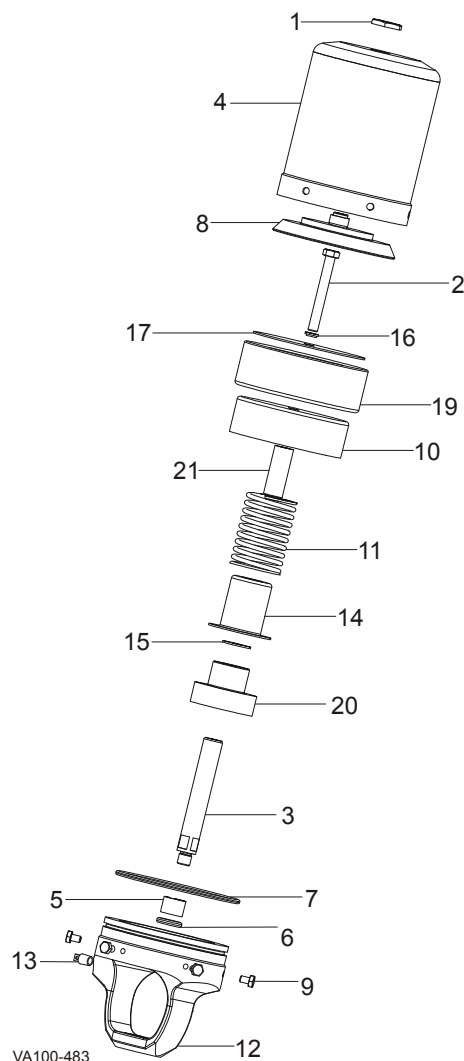

Figure 35: 5" Air-to-Lower Diaphragm Actuator
1. Loosen the hex nut (Figure 35, item 1) on top of the actuator.
2. Remove the four cap screws (item 9).
3. Remove the yoke (item 12) from the assembly.
4. Remove the spacer (item 20) and hex nut (item 1).
5. While holding the stem, pull the inside sub-assembly from the cylinder (item 4).
6. Remove the diaphragm holder (item 8) and fold the diaphragm (item 19) over the piston (item 10).
7. Remove the cap screw (item 2) and washer (item 16) from the sub-assembly.
1. Apply Loctite® 242 to the threads (Figure 35, item 2).
- cap screw (item 2)
- washer (item 16)
- diaphragm retainer (item 17)
- diaphragm with the high-pressure side up (item 19)
- piston (item 10)
- spacer (item 21)
- spring (item 11)
- spring retainer (item 14)
- washer (item 15)